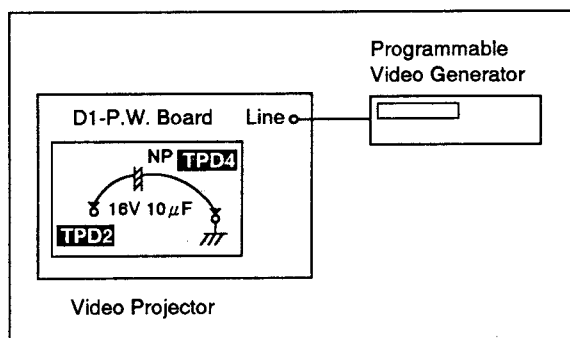

Fig. 6
9. Connect a jumper wire jig between **TPD2** and **TPD4**. (See Fig. 6)